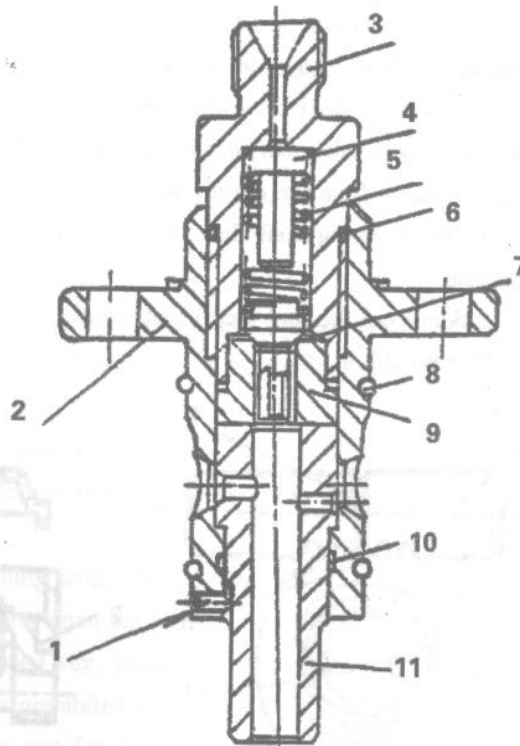

Fig. 8 Flanged sleeve element
e. The flanged sleeve elements dismantling procedures (refer to Fig. 8):